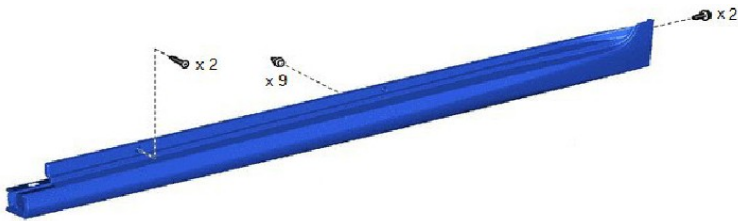

Figure 23
18. Remove the 2 side screws and 2 rear screws from both rockers, in order to route harnesses forward. Figure 23.